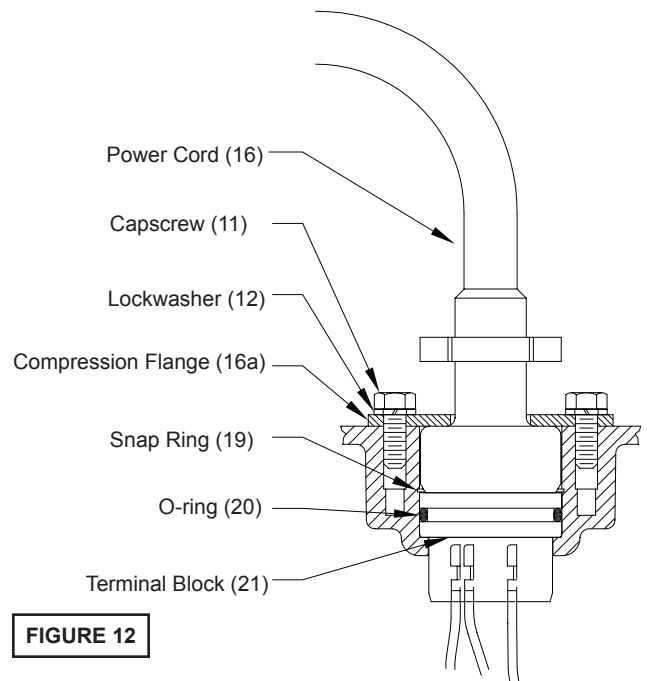

FIGURE 12
Check power cords (16) for cracks or damage and replace if required (see Figure 12). Make internal wiring connections which are independent of the terminal block as shown, using connectors (48) and wire assemblies (49) as required.